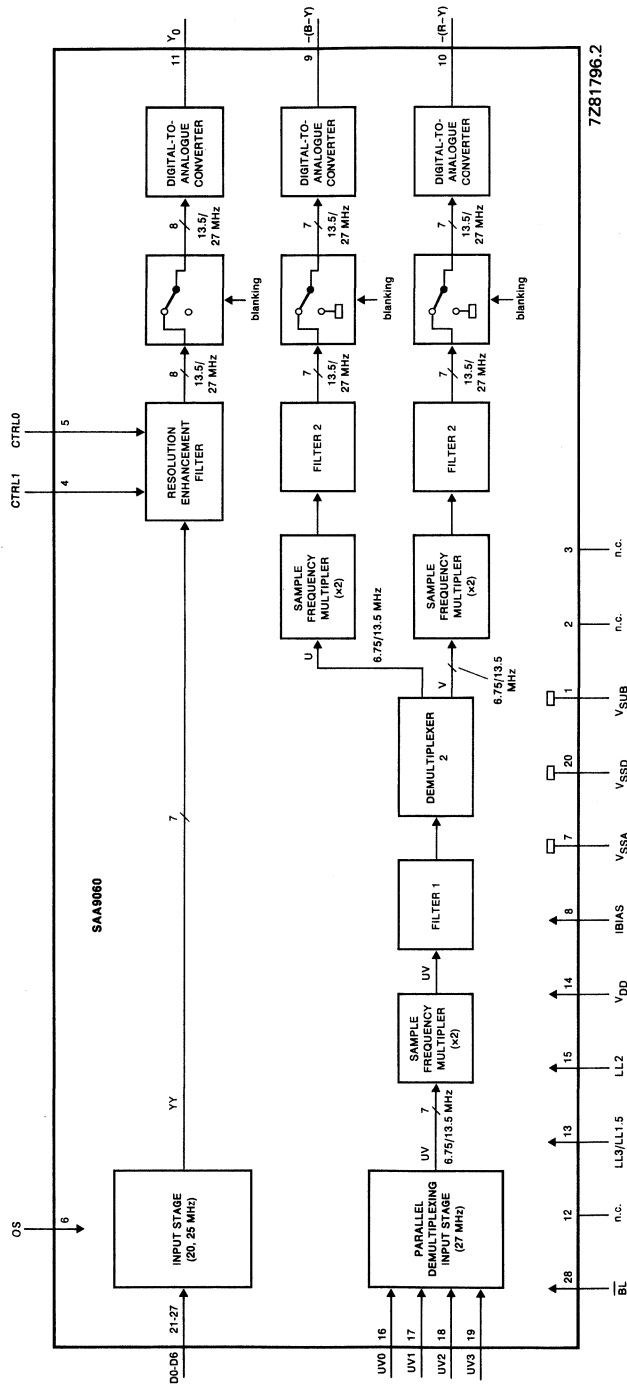

Fig.1 Block diagram.
**FUNCTIONAL DESCRIPTION** (see Fig. 1)